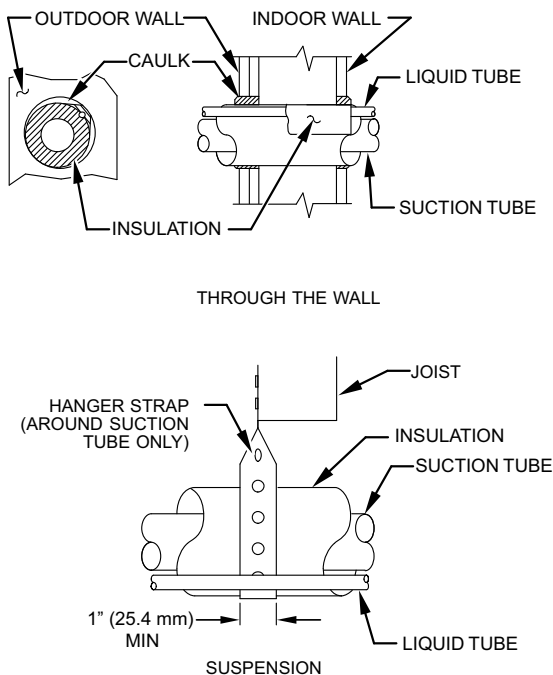

Fig. 1 – Connecting Tubing Installation
6. When passing refrigerant tubes through the wall, seal opening with RTV or other pliable silicon-based caulk. (See Fig. 1.)
8. Do not suspend refrigerant tubing from joists and studs with a rigid wire or strap which comes in direct contact with tubing (see Fig. 1.).
10. When necessary, use hanger straps which are 1 in. (25 mm) wide and conform to shape of tubing insulation. (See Fig. 1.)